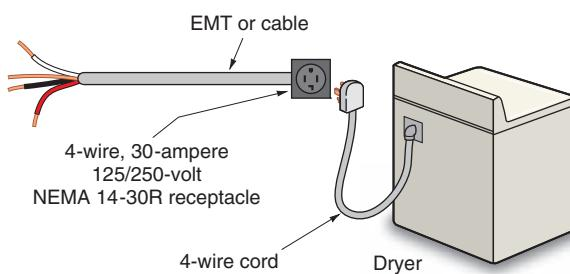

FIGURE 15-4 Dryer connection using a cord set. (*Delmar/Cengage Learning*)
Probably the most common method is to install a 4-wire, 30-ampere receptacle on the wall behind the dryer. A 4-wire, 30-ampere cord (“pigtail”) is then connected to the dryer. This arrangement is referred to as a “cord-and-plug connection” and is shown in Figure 15-4. In conformance to 210.23, the connected load shall not exceed the branch-circuit rating.
Figure 15-4 shows a 30-ampere, 4-wire receptacle configuration for an electric clothes dryer installation in conformance to the latest *NEC*. Figure 15-5 shows (A) a surface-mount 4-wire receptacle and (B) a flush mount 4-wire receptacle.